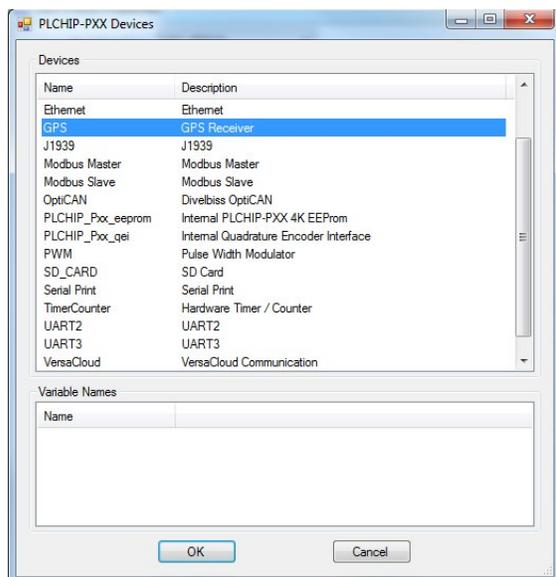

Figure 2-31- PLCHIP-PXX Devices - GPS
4. Click / select **GPS** (highlight). Refer to Figure 2-31. Click **OK**. The GPS Properties window will open identifying UART2 as the interface for the GPS. Click **OK**.